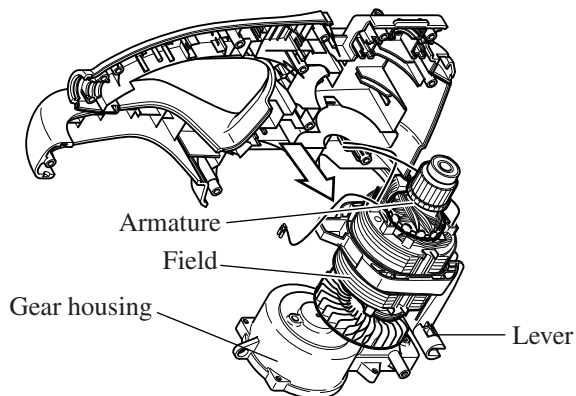
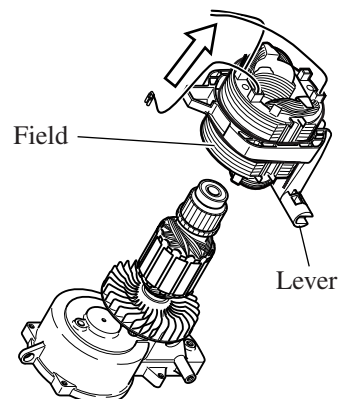
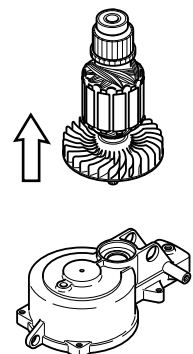

Fig. 25
Fig. 26
Fig. 27
4. Disassemble motor unit (gear housing, armature, field and lever) from housing as illustrated in Fig. 25. And take off field together with lever from motor unit as illustrated in Fig. 26. Separate armature from gear housing as illustrated in Fig. 27.